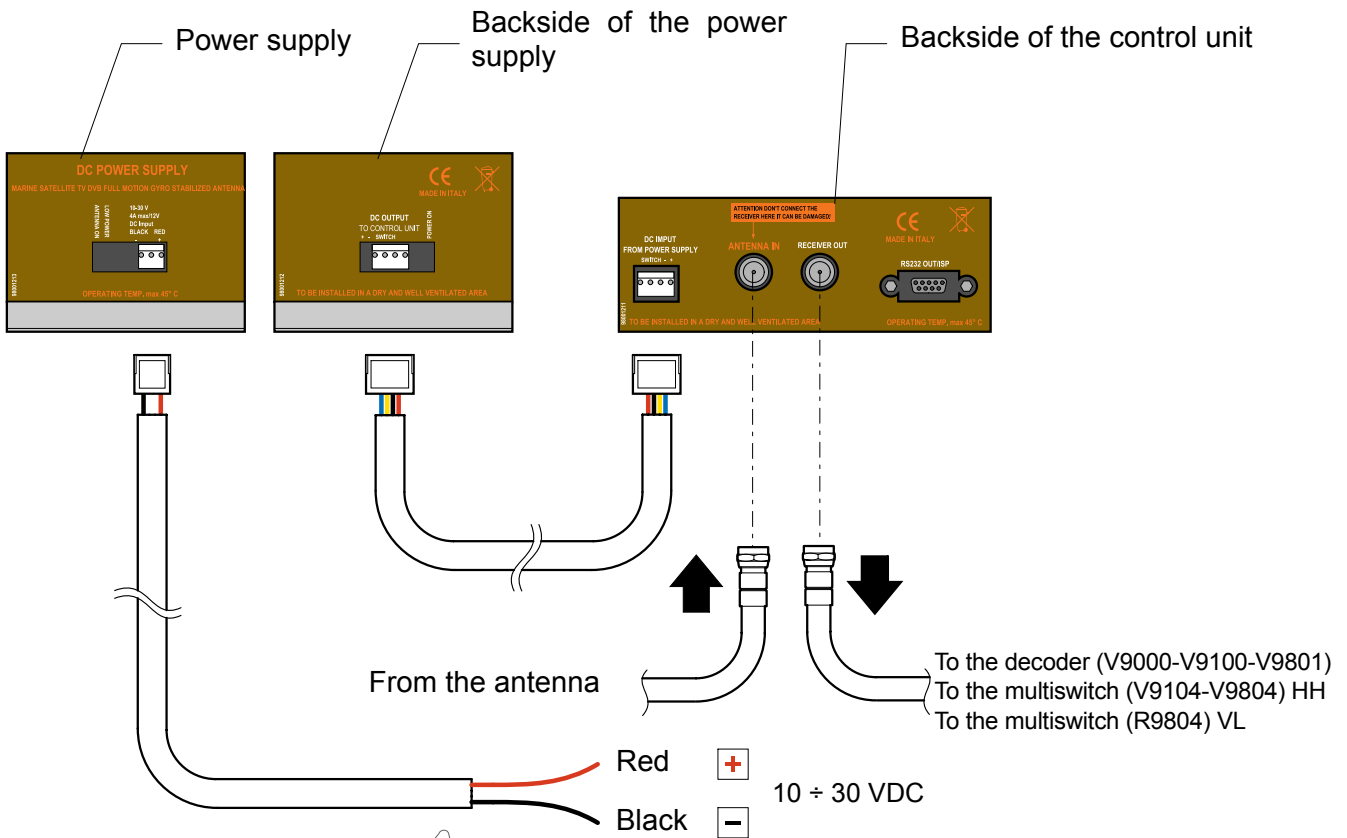
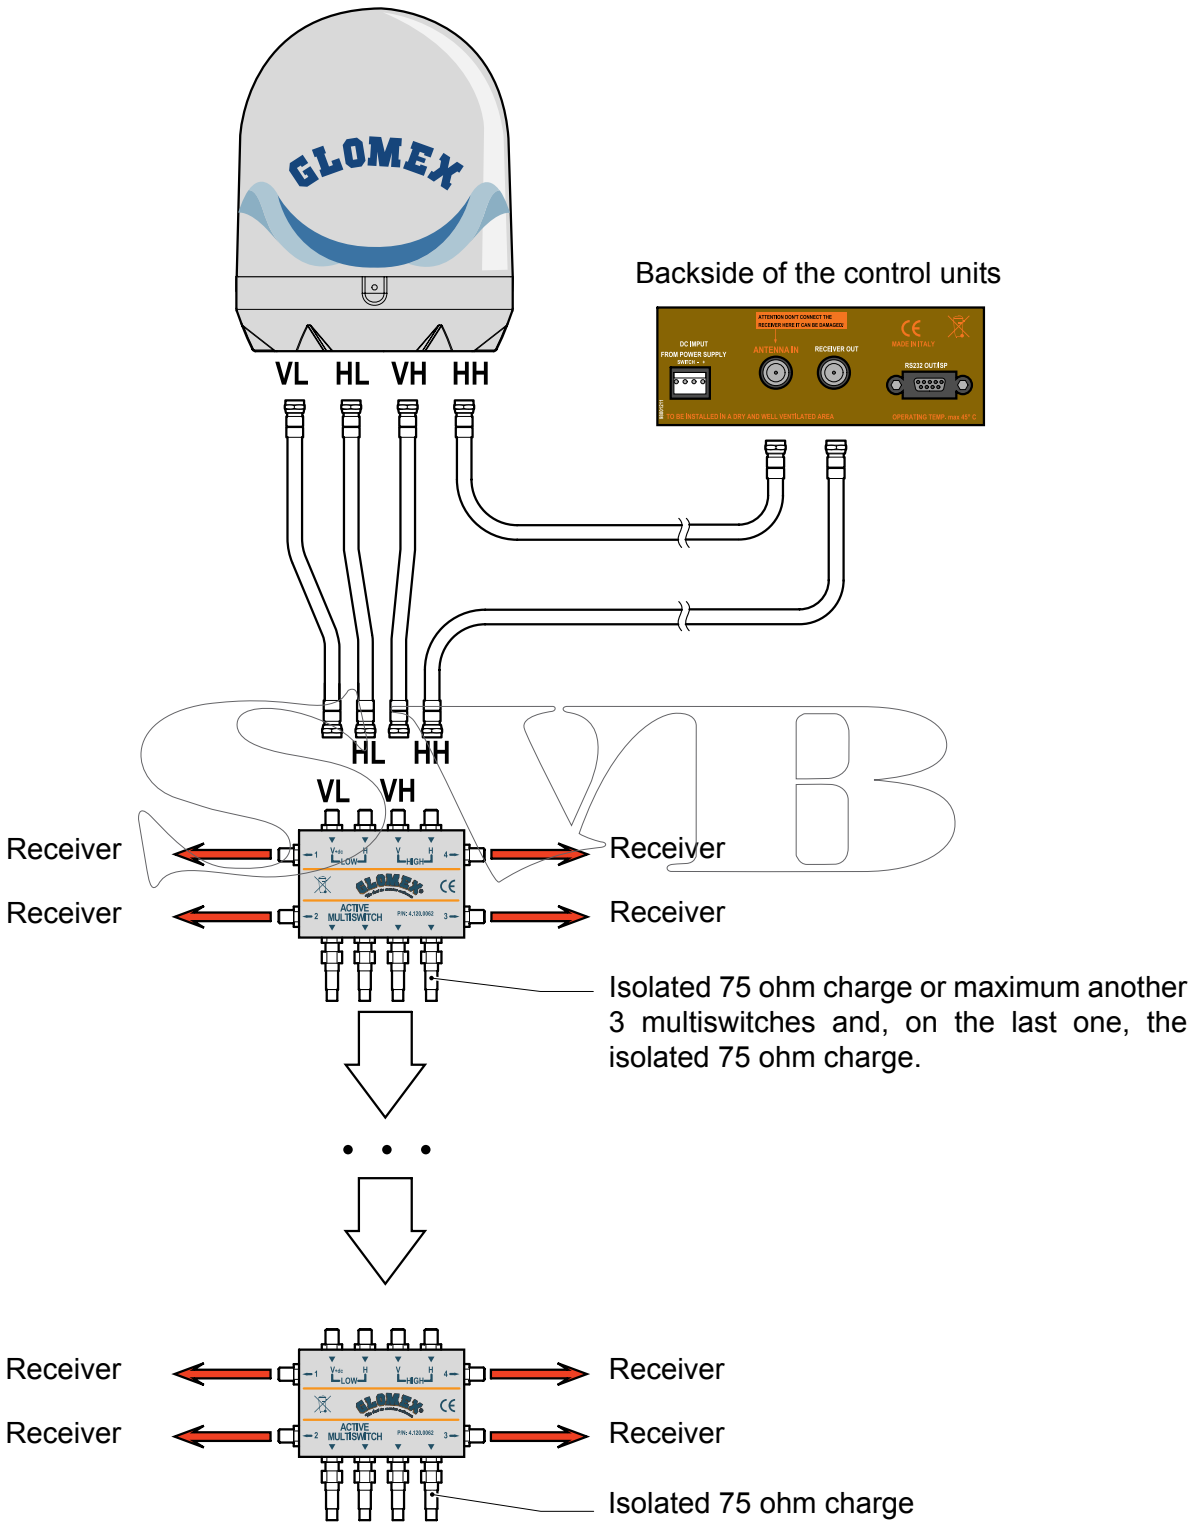

Fig. 16
Fig. 19
5. For models V9104, V9104SKEW, V9804 and V9804SKEW which provide for the presence of the multiswitch, connect the cables by following the indications given in Fig. 19.
8. Connect the cables to the line amplifier (if available), to the multiswitch (if available), to the receiver(s) (not included), as indicated in Fig. 1, Fig. 16, Fig. 19.